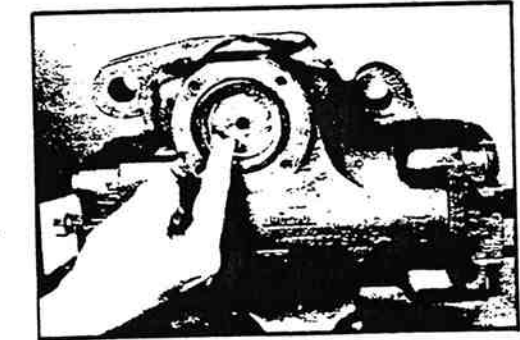

Figure 11-14. Apply Grease to Retain Bearing Rollers.
12. When the rollers are half exposed, apply enough grease to retain them in the housing bearing (2) (figure 11-14).